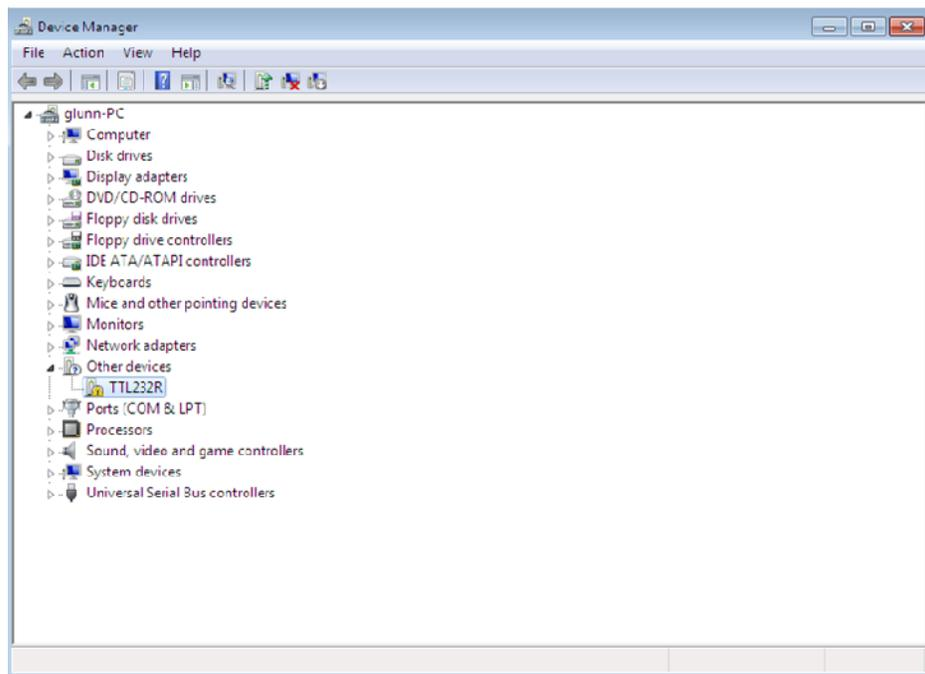

Figure 1
2. In the Device Manager window there will be a device under "Other Devices" with a yellow warning symbol (Figure 1) to indicate a problem (i.e. no driver installed). The description next to this device will depend on the device attached. When loading the drivers, this warning symbol maybe under "Human Interface Devices" and not under "Other Devices."